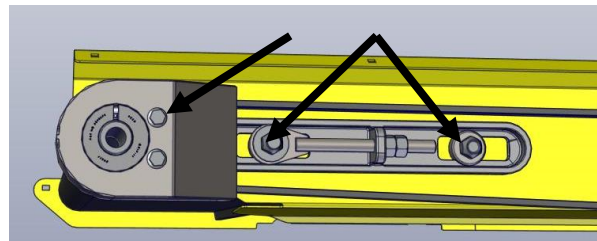

Figure 62
4. On the end of the deck, closest to the center deck, remove the shield, belt, and drive pulley. Figure 62
5. Remove bearings assemblies on the drive side by removing the two retaining bolts. Figure 62